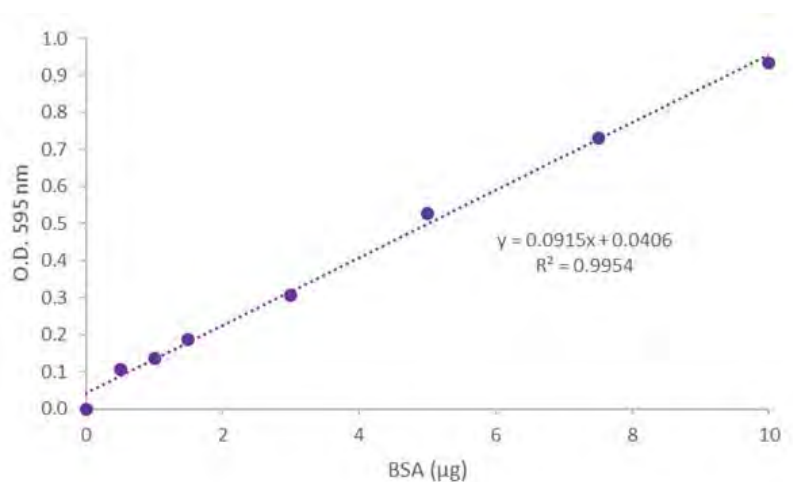

Figure 2. Typical standard curve for Bradford assay
4. Standard curve example for microplate assay procedure is shown in Figure 2.